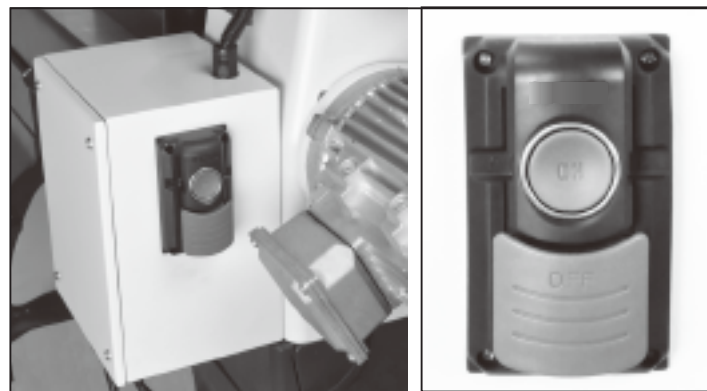
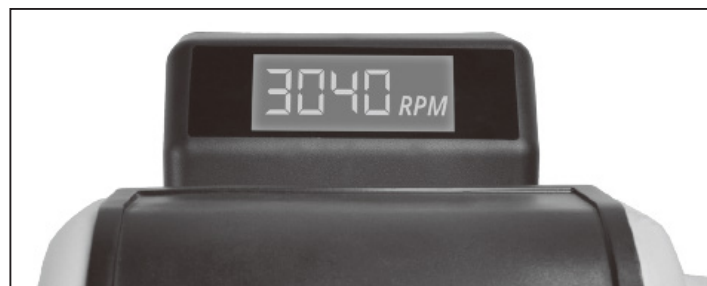

Fig.5.5
Fig.5.6.2
The #WL3040A Lathe has a main on/off switch located behind the headstock on the side of the metal Inverter Box. FIG. 5.5. This switch MUST be operated before and after the lathe is used. It allows electrical access to the control box for using the lathe. It also totally shuts down the lathe when not in use for an extended time. The switch protects the lathe's electricals, particularly the LCD display from burning out, and prevents unwanted access by children or bystanders. The switch will also hold a lock to further secure the lathe from being activated.
B. 'ON' BUTTON: Push the green Button so that it turns the lathe ON. Push the red Button (D) to turn the lathe OFF.
C. RPM KNOB: This knob controls the desired spindle revolutions per minute (RPM). See the Speed Charts for the 3 speed range settings on page 16. Spindle speeds are shown on the LCD Display FIG. 5.6.2.
NOTE: The AC Inverter Control Box (FIG. 5.5, #B23) that is located on the rear of the headstock does not require any programming. It is pre-programmed from the factory. The buttons and knob on the face of inverter should not be changed. Only use the 5 electronic controls on the front of headstock (Fig.5.6.2) to operate the lathe.